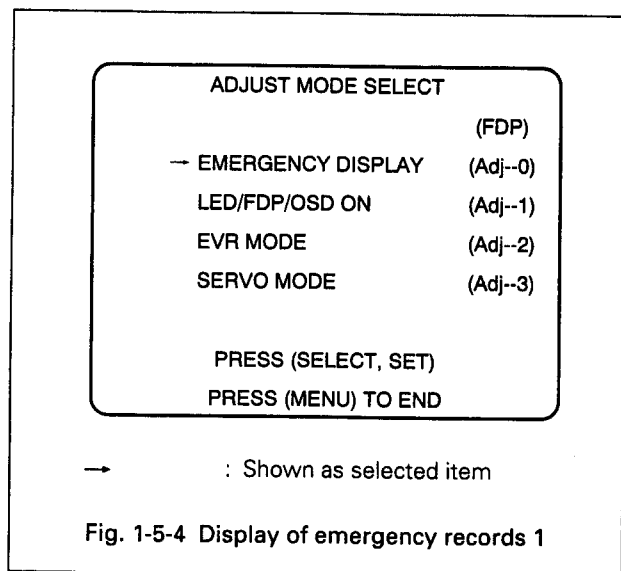

Fig. 1-5-4 Display of emergency records 1
3. Press the **SET** button, and the "ADJUST MODE SELECT" menu appears on the display. (Refer to Fig. 1-5-4.)
4. Select "SERVO MODE (Adj-3)" with the **SELECT** button. (Refer to Fig. 1-5-4)
4. Select "SERVO MODE (Adj-3)" with the **SELECT** button. (Refer to Fig. 1-5-4.)